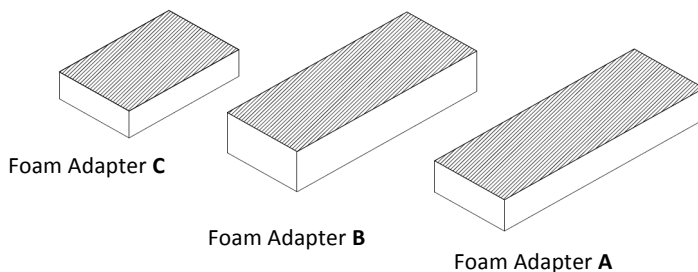

***Fig. 4 - Mounting the Control Module to the wall***
- Hold the ScaleRID Control Module in place and insert the supplied screws through the holes in the module, per *Fig. 4* below.